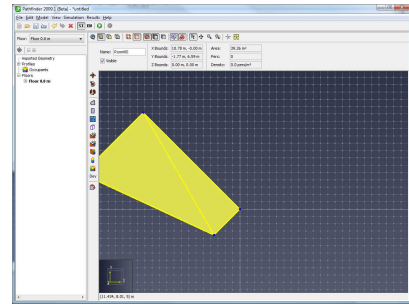

Figure 151. Rotated object
- The third defines a second vector extending from the rotation base (Figure 151). The rotation angle is the angle between these two vectors.